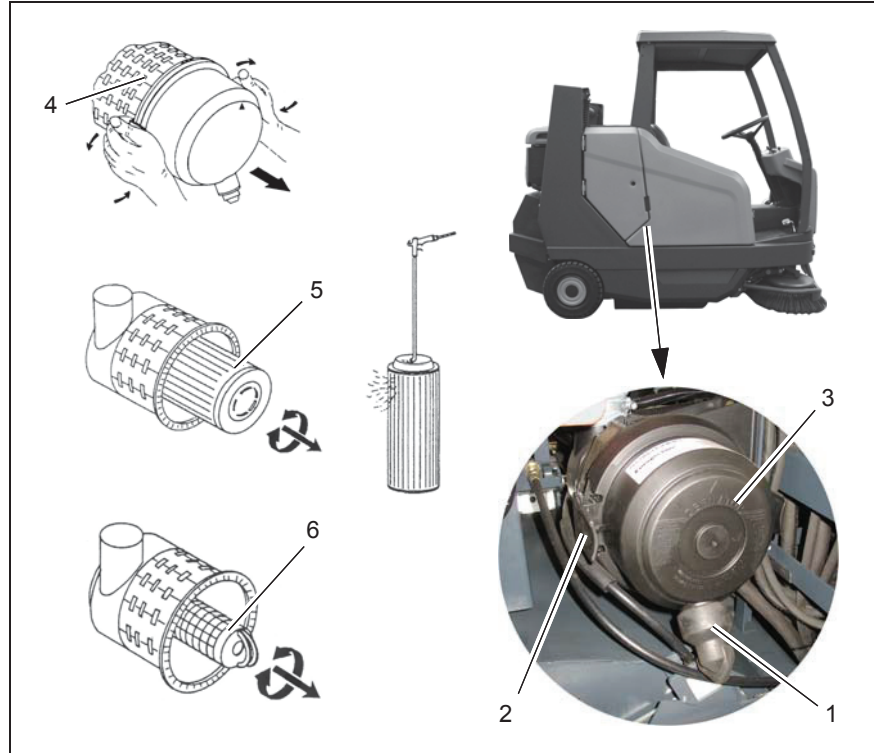

Fig.25
The dust discharge valve (Fig. 25/1) must be cleaned every day. Press the valve together, thus, removing the accumulation of dust. Replace the valve if damaged.
2. Unlock the snap-in hooks (Fig. 25/2) holding the housing cover and remove the housing cover (Fig. 25/3).
3. Remove the main filter (Fig. 25/5) out of the upper housing section (Fig. 25/4) by turning it a little.
The main filter (Fig. 25/5) must be checked each week and cleaned as necessary.
1. Clean the housing cover (Fig. 25/6) on the inside using a moist cloth.
1. Slide the main filter (Fig. 25/5) back in the upper housing section, with the open side first.
2. Replace the housing cover (Fig. 25/3), pay attention to the correct position of the dust discharge valve.
3. Lock the housing cover back in place with the snap-in hooks (Fig. 25/3).
The main filter (Fig. 25/4) must be changed in the case of large accumulations of dirt, damage or every 250 operating hours at the latest.
The safety cartridge (Fig. 25/6) must not be cleaned nor reused after being disassembled!
1. Disassemble the main filter (Fig. 25/4), see paragraph 5.6.2.
3. Insert a new safety cartridge (Fig. 25/5). Only use original spare parts!
4. Install the main filter (Fig. 25/4), see paragraph 5.6.4.